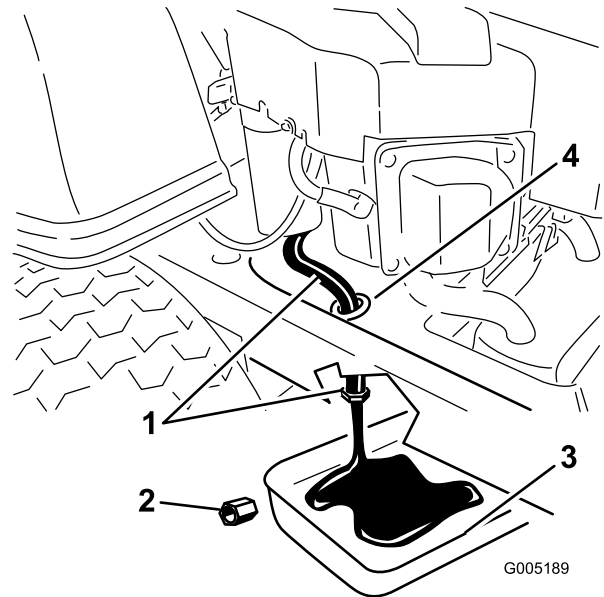

Figure 31
5. Locate the oil drain hose on the left side of the engine. The drain plug is attached to a drain hose routed through a drain hole in the machine frame (Figure 31). Clean the area around the oil drain plug cap and the oil drain hose.
6. Place a pan underneath machine directly below the oil drain hose as shown in Figure 31.
7. Using two wrenches (one to hold the oil drain hose and one to loosen the plug), remove the oil drain plug (Figure 31).
13. When oil has drained completely, install the oil drain plug. Tighten the plug to 14 N-m (125 in-lb) torque. Wipe up any excess oil (Figure 31).